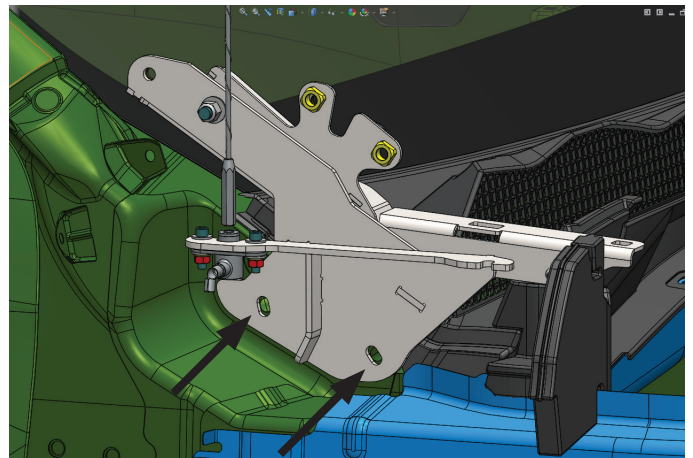

Figure 9
7. Install and hand tighten the two (2) factory bracket bolts. (Figure 9)